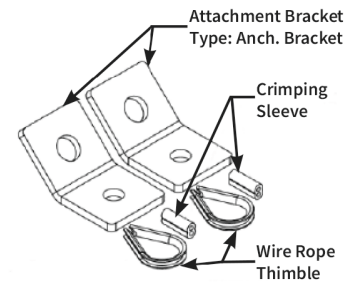

Fig 2.
- QTY= (2) Crimping Sleeves for Field Swaged Ends (Fig. 2 )
- QTY= (2) Galvanized Heavy Duty Wire Rope Thimbles (Fig. 2 )
- QTY= (2) Zinc-Plated Attachment Brackets (Fig. 2 ) - See Table 1 below for Bracket Types for different Models: